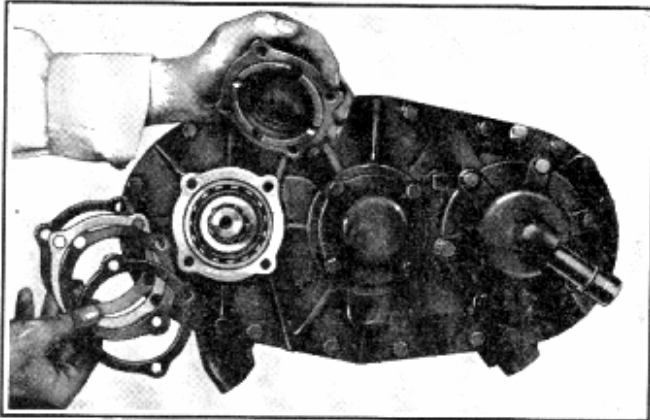

Fig. 9—Installing Bearing Caps
3. Install the idler shaft and main shaft front bearing caps (18) and (9), new gaskets (17 and 8) and shims (16 and 7) as illustrated in Fig. 9. Use the same shim pack thickness on the caps as was used at disassembly. The shims on the idler shaft bearing caps are used for two purposes, first of which is to provide means of making the bearing adjustments, and secondly, removing shims from the front bearing cap and adding the same thickness under the rear cap, or vice versa, provides a means of properly locating the idler gear in relation to the other two gears and the case.